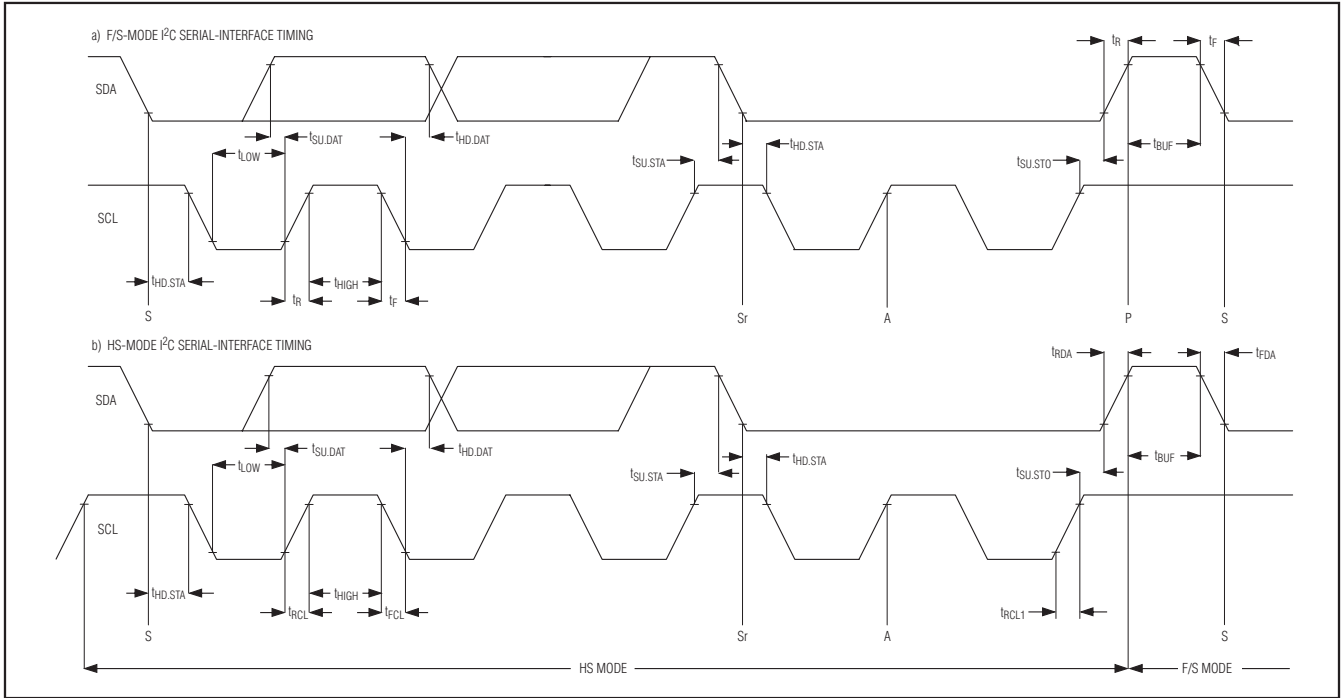

Figure 1. I2C Serial-Interface Timing
**Note 12:** A master device must provide a data hold time for SDA (referred to  $V_{IL}$  of SCL) to bridge the undefined region of SCL's falling edge (Figure 1).
At power-up, the MAX11600–MAX11605 bus timing defaults to fast mode (F/S mode), allowing conversion rates up to 44ksps. The MAX11600–MAX11605 must operate in high-speed mode (HS mode) to achieve conversion rates up to 188ksps. Figure 1 shows the bus timing for the MAX11600–MAX11605 2-wire interface.